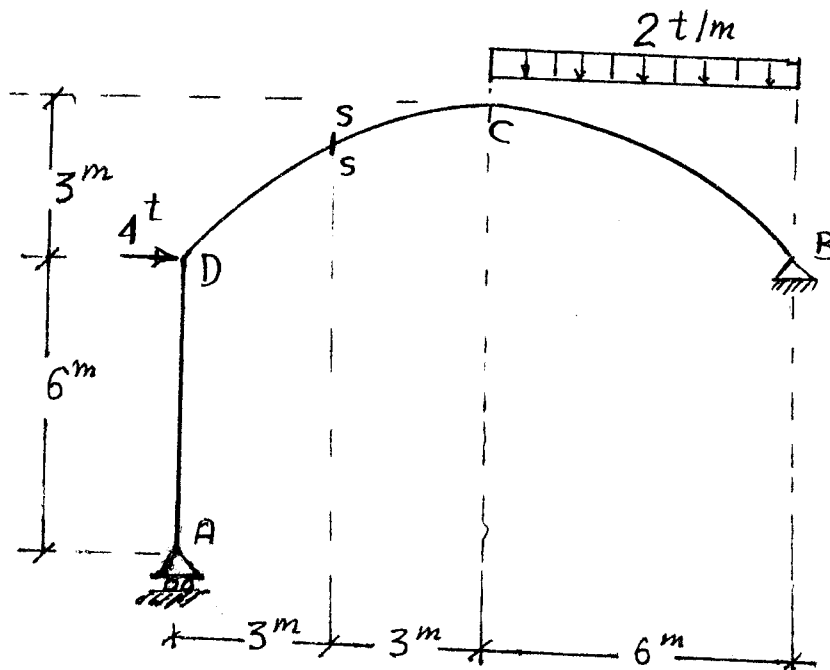

Fig. 4
4. For the arched frame shown in Fig.4, draw the bending moment diagram. Find also the straining actions at section s-s. (12 marks)